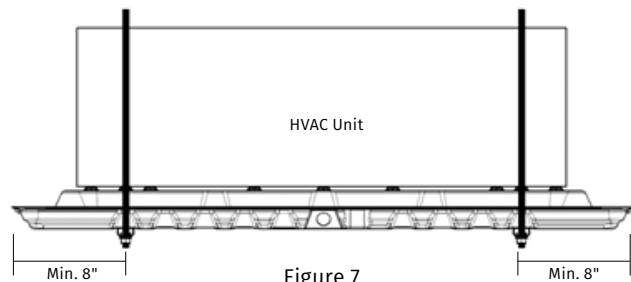

Figure 7
6. When hanging (Goliath pans are capable of hanging, Spartan pans are non-hangable), pan must be supported equally, at least 8" from each end, by a support system approved by local code. (Figure 7)